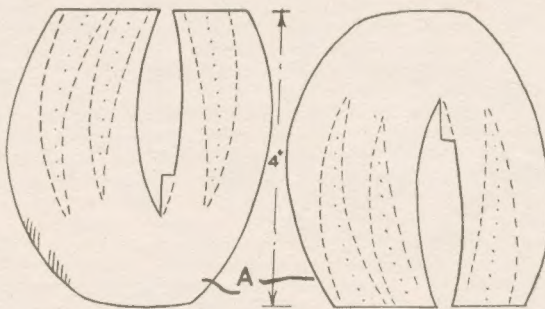

Fig. 1—First shapes cut out in card
The shapes shown in Fig. 1 should be cut out of white cartridge paper, and the dotted lines drawn lightly in pencil on the underside of the paper. The lines indicated by dashes should be drawn on top of the paper. These pencil lines should now be scored with a penknife or some other
By pressing on the dotted lines a V-shaped fold will now be formed by each set of three lines, and part (B) will fold under (C) whilst (D) is merely folded down. The two parts at (A) form the ends of the bow. After part (E) Fig. 1 has been cut out and folded, this forms the centre of the bow and gives the twist effect by pasting (C) and (B) on the underside of (E) after passing through the arch. Thus all parts now form one complete piece.